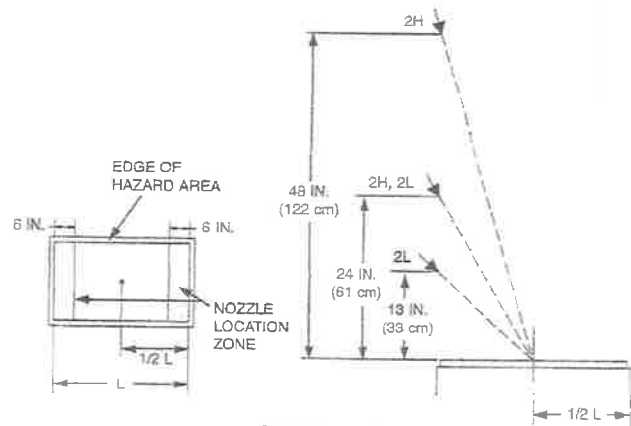

Figure 3-8a.
The 2H nozzle, Part No. 551028, is used for high proximity griddle protection. This nozzle is a two (2) flow nozzle. The nozzle must be located 0 to 6 in. (0 to 15 cm) from short side of the hazard surface, 24 in. to 48 in. (61 to 122 cm) above the cooking surface of the appliance and aimed at the center of the hazard area. See Figure 3-8a.
The 2L nozzle, Part No. 551027, is used for low proximity griddle protection. This nozzle is a two (2) flow nozzle. The nozzle must be located 0 to 6 in. (0 to 15 cm) from the short side of the hazard surface, 13 in. to 24 in. (33 to 61 cm) above the cooking surface of the appliance and aimed at the center of the hazard area. See Figure 3-8a.